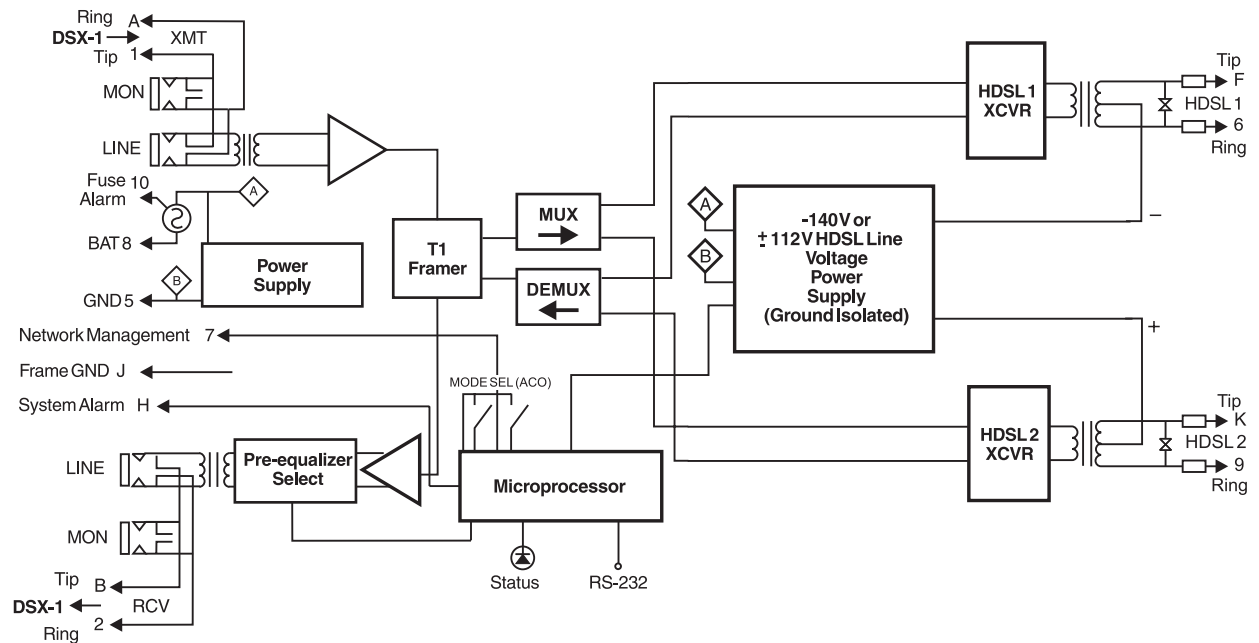

Figure 31. HLU-319 List 5A Block Diagram
A block diagram of the HLU-319 is shown in Figure 31. The HLU-319 receives a 1.544 Mbps DSX-1 data stream from the DSX-1 digital cross connect interface. The HLU-319 contains a DS1 frame synchronizer controlled by an 8-bit microprocessor that determines the type of framing on the DS1 stream and synchronizes to it. The HLU-319 recognizes Superframe (SF), including D4, or Extended Superframe (ESF) framing. When the data is unframed, the HLU-319 arbitrarily defines a frame bit.